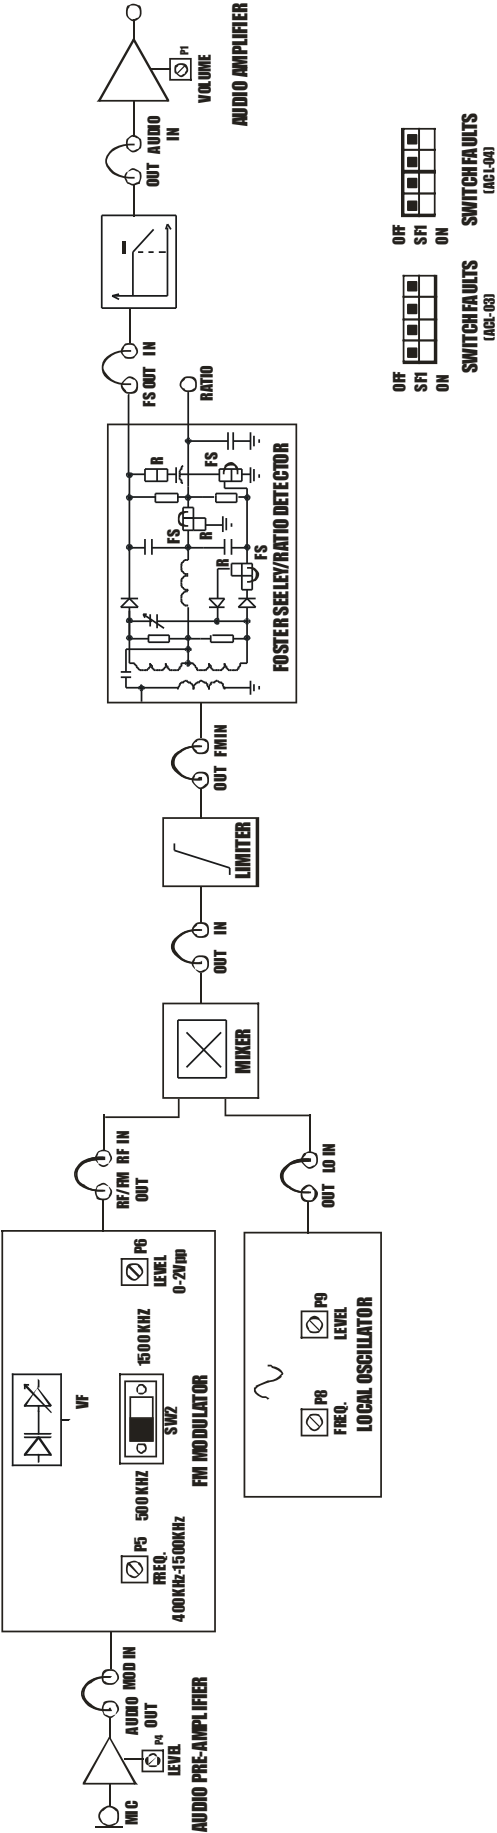

FIG.9.1 BLOCK DIAGRAM FOR VOICE COMMUNICATION THROUGH FM
- Refer to the FIG. 9.1 & Carry out the following connections.